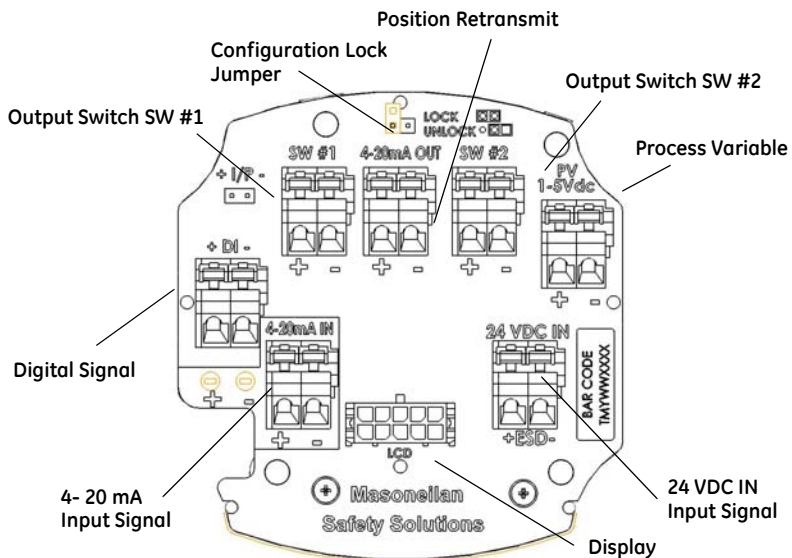

Figure 17 Connections to A/DSD Electronics Module (via Terminal Board)
5. Connect the \pm terminals of the 24 VDC power source to the 24 VDC ESD IN connector (on the terminal board). The voltage source + must connect to the terminal board connector +, and the same for -. Figure 17 on page 50.